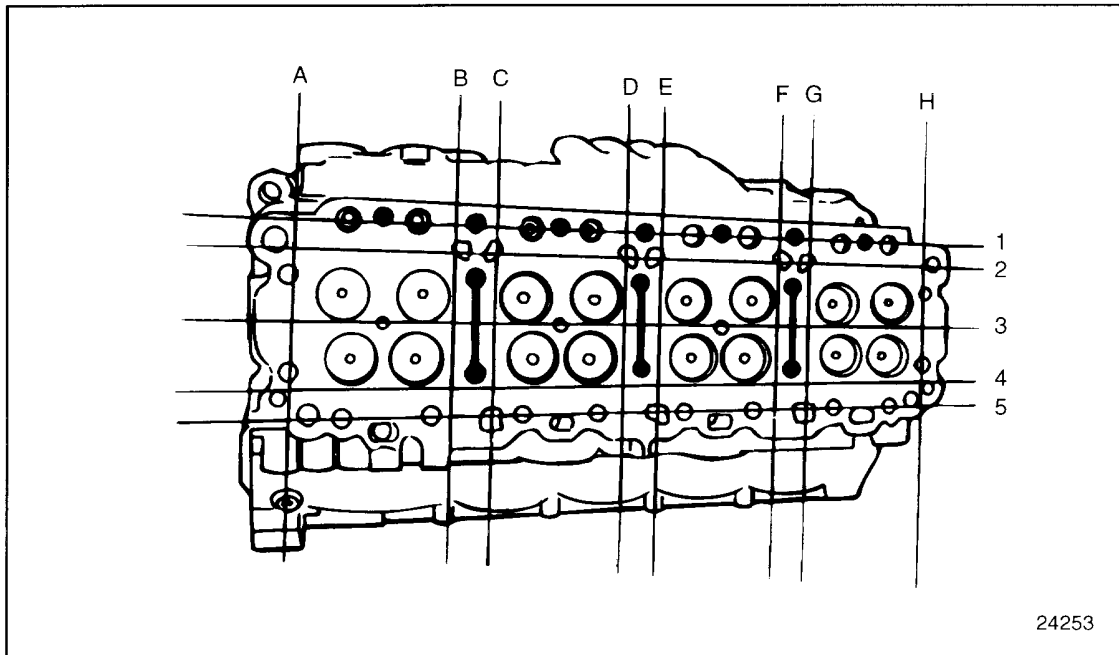

Figure 1-39 Cylinder Head Measurement Locations
2. Also, check for longitudinal warpage in five places and transverse warpage in 8 places, indicated as A through H in the next illustration. See Figure 1-39.